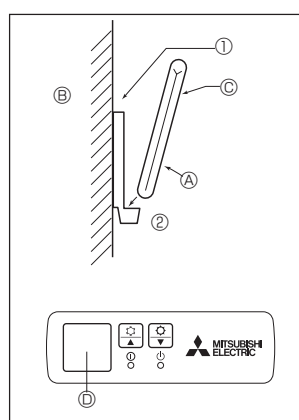

Fig. 6-5
2) Installation method (Fig. 6-5)
① Attach the remote controller holder to the desired location using 2 tapping screws.
② Place the lower end of the controller into the holder.